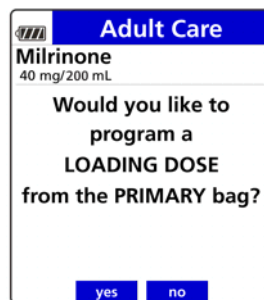

Figure 61. Loading Dose Prompt Screen.
1. If the drug has been configured in the Drug Library to allow a loading dose, a prompt is displayed after the drug and concentration (if the drug has more than one concentration) has been selected. See Figure 61.